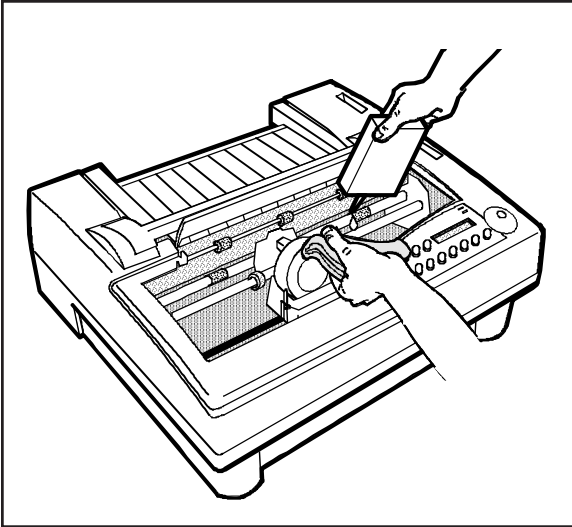

Figure 5-4. Cleaning the Main Carriage Shaft
3. While holding the cloth below the shaft, apply two or three drops of oil, as shown in figure 5-4. Then, slowly slide the carriage along the shaft and stop at the far side of the chassis.